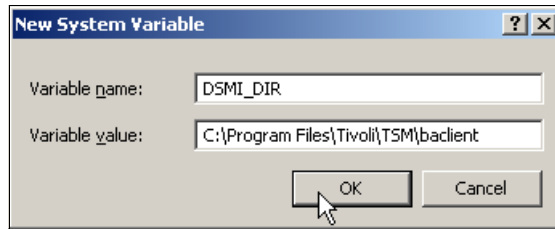

Figure 3-5 Adding a new System Variable
3. Add all three new system variables that are listed in Table 3-2 on page 68. Repeat the add process as seen in Figure 3-5 on page 70 for each variable.